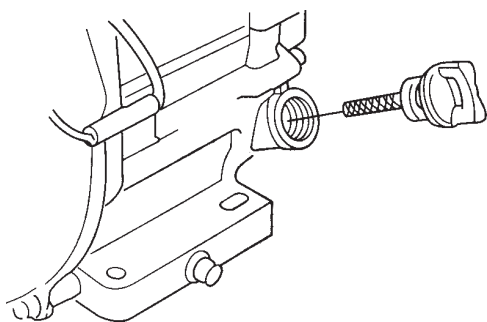

Figure 8. Engine Oil Dipstick (Removal)
2. Remove the filler dipstick from the engine oil filler hole (Figure 8) and wipe it clean.